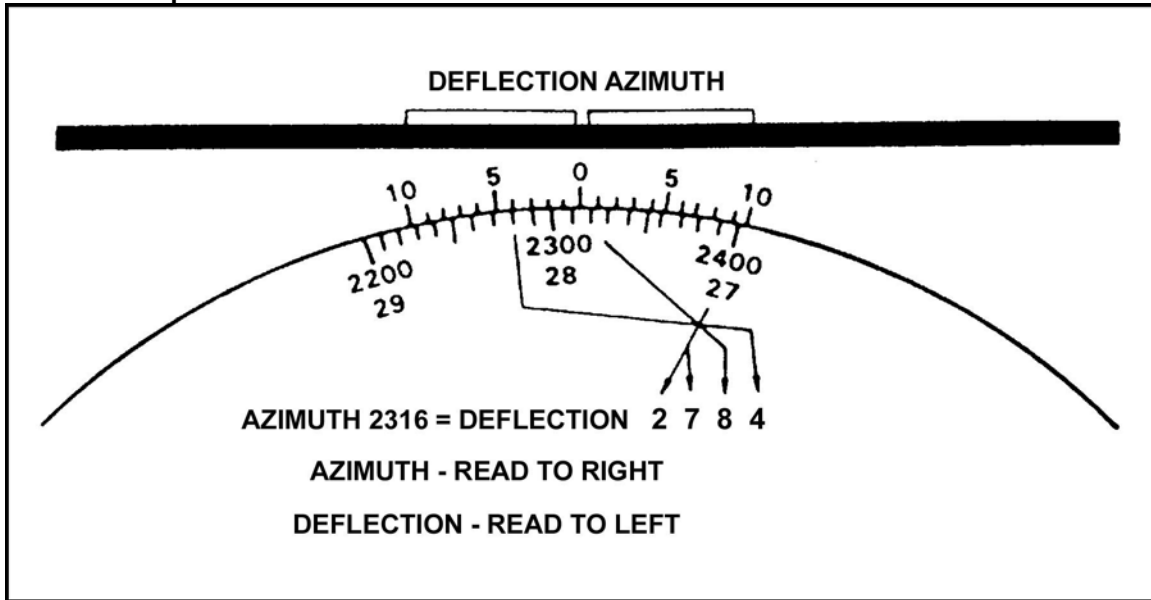

Figure 2. Deflection.
- e. To determine the deflection for the first round, keep the direction of fire (2316) indexed and read the deflection as follows (Figure 2):
- (1) The first two digits are read from the deflection scale the computer placed on the plotting board. Since deflections increase to the left, the first number to the right of the index mark is 27.
- (2) The third digit is read from the 10-mil mark between deflection numbers 27 and 28. The index mark is between the eighth and ninth 10-mil mark, which makes the third digit 8.
- (3) The fourth digit is read at the Vernier scale. For deflections, use the left half of the scale. Count the 1-mil marks of the Vernier scale and one of the 10-mil marks on the azimuth disk. When aligned, they make the fourth digit 4.